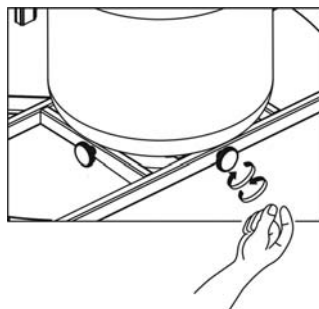

Figure 4
4. Tighten the threaded knobs found on the tank tray (Figure 4) so that the LP tank cannot move from side to side. Do not remove the plastic cap from the end of the threaded section.